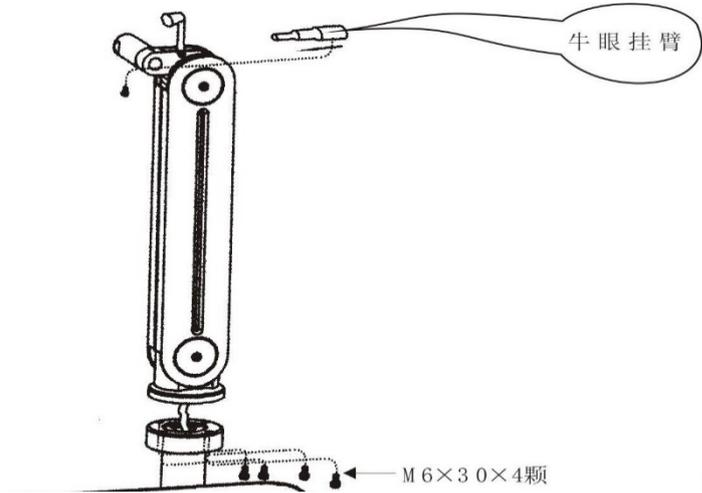

Figure 7
- 10) ③The installation of swing arm part 1 Connect the general power, turn on the power switch, press the up button to move the arm up the highest(for a easier screw installation)
- 11) ③he installation of swing arm part 2: Turn off the general power, connect the arm power line with the plug in and fix the arm .Then put the view tester hanger arm into the swing arm firmly.(Figure 7)